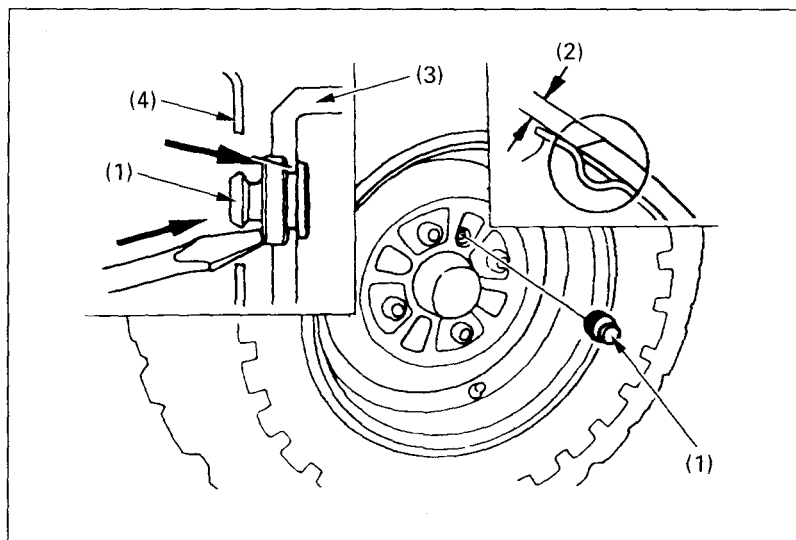
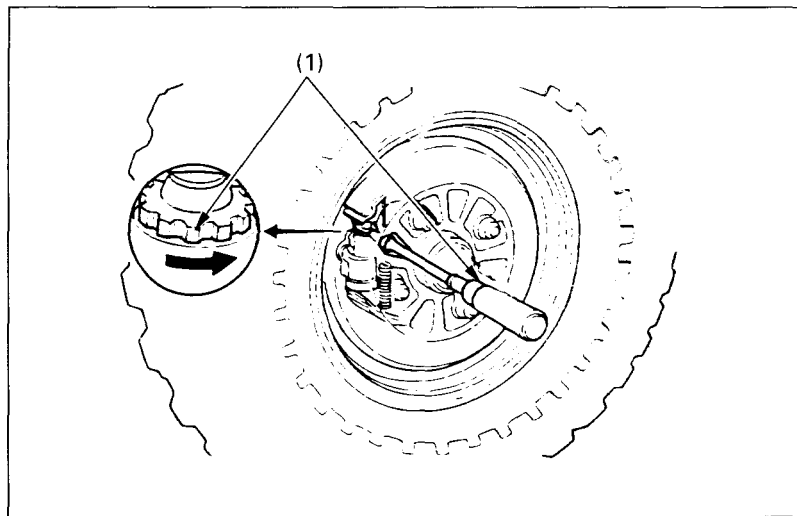

Fig. 4-24 (1) Inspection hole plug (2) Lining thickness (3) Front brake drum (4) Front wheel rim
Fig. 4-25
(1) Front brake lever
2. Remove the inspection hole plug (Fig. 4-24) and measure the lining thickness (2) on both front wheels.
3. If the brake lever free play and the brake shoe lining thicknesses are within the recommended limits, reinstall the inspection hole plugs, seating them into the inspection holes as shown in Fig. 4-24.
3. Beginning with either the left or right front wheel, remove the inspection hole plug (Fig. 4-24) and line up the hole with one of the brake adjusters (Fig. 4-25).
4. Using a screwdriver, turn the brake shoe adjuster (1) in the direction of the arrow until the front brake locks.
(1) Brake adjusters
7. Reinstall the inspection hole plug, seating it into the inspection hole as shown in Fig. 4-24.